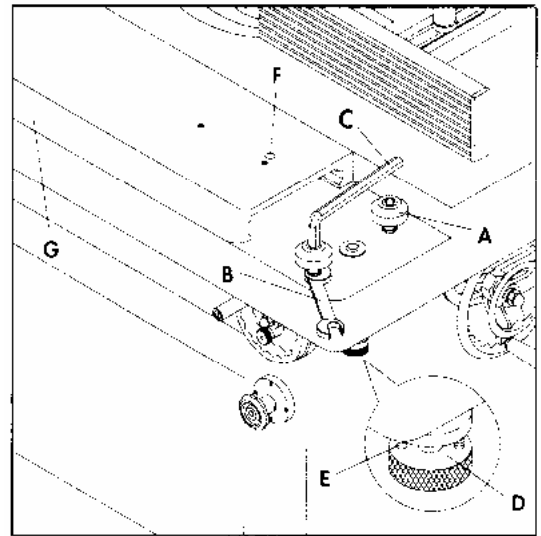

Fig. 3.40
There are six adjustable eccentric rollers (A) Fig.3.40, on sliding table. Wherever the table is unstable or not traveling in line, adjust the sliding table as follow:
1. Use open end wrench (B) to adjust the rollers.
2. Lock the rollers by using the hex. Wrench (C)
To operate the sliding table (G) Fig.3.40, pull out and rotate knob (D) until it stays in the out position as shown. The sliding table can then be moved back and forth. To lock the sliding table, preventing it from moving, simply rotate knob (D), until knob (D) moves to the up position and the pin on the other end of the knob engages a hole underneath the table.